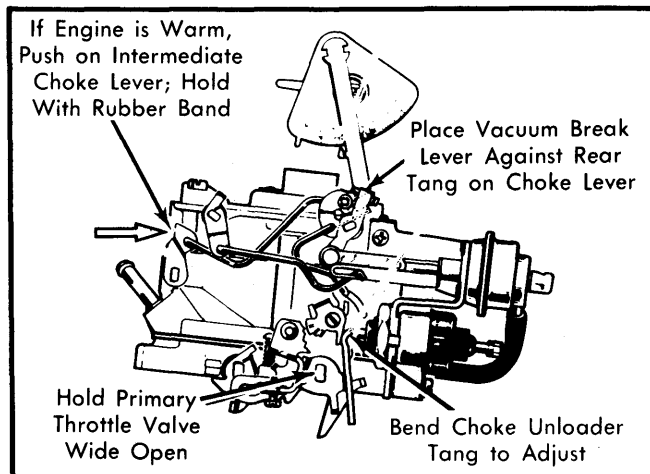

Fig. 8 Choke Unloader Adjustment
- 1) Automatic choke should be to specified setting. Do not adjust setting unless carburetor is to be overhauled or unless choke coil lever adjustment is necessary. Hold primary throttle valve wide open. See Fig. 8.